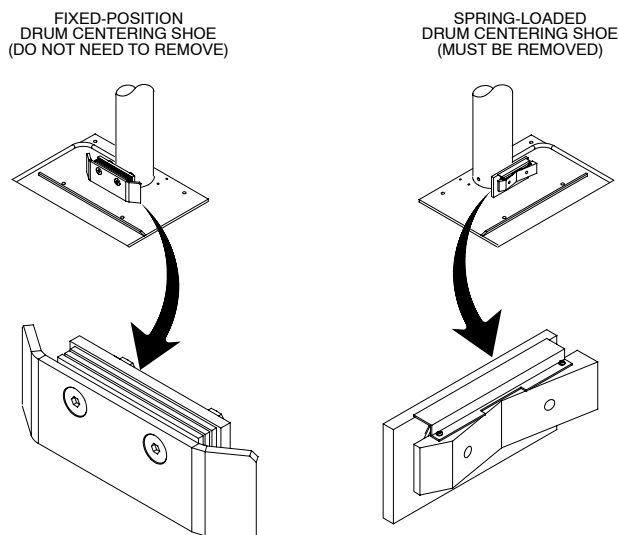

Figure 3 Fixed-Position Centering and Spring-Loaded Hold Down Shoes
1. See Figure 3. If installed, remove the spring-loaded hold down shoes. Fixed-position centering shoes do not need to be removed.